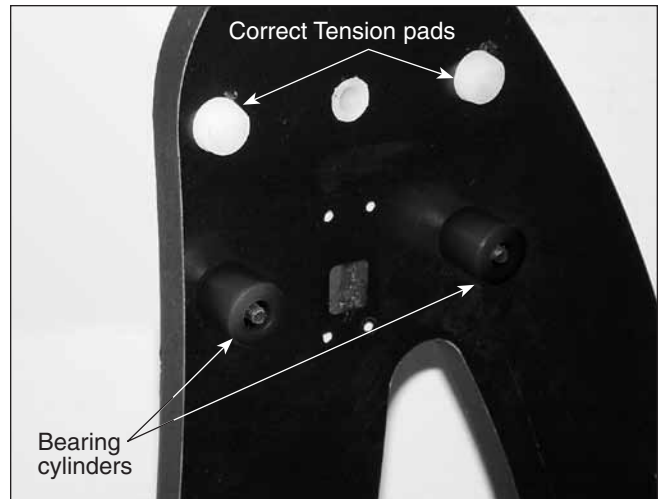

Figure 5. Attaching the bearing cylinders.
10. Attach the handle (M) to the front brace (B) with the two handle mounting hex-head screws. Place one washer on each screw, then press the handle against the front brace (the end of the handle bearing the Orion logo should be up). Then thread the screws from the inside of the base into the handle until tight using the supplied crescent wrench.
11. Line up one of the altitude bearing cylinders (N) with the inside of one of the four bearing cylinder holes on the side panels. Push a bearing cylinder screw through the side panel and thread the bearing cylinder onto it (**Figure 5**). The beveled end of the cylinder should be farthest from the side panel. You can tighten the cylinder by hand or, if needed, with the supplied 4mm hex key. Repeat for the remaining three bearing cylinders.